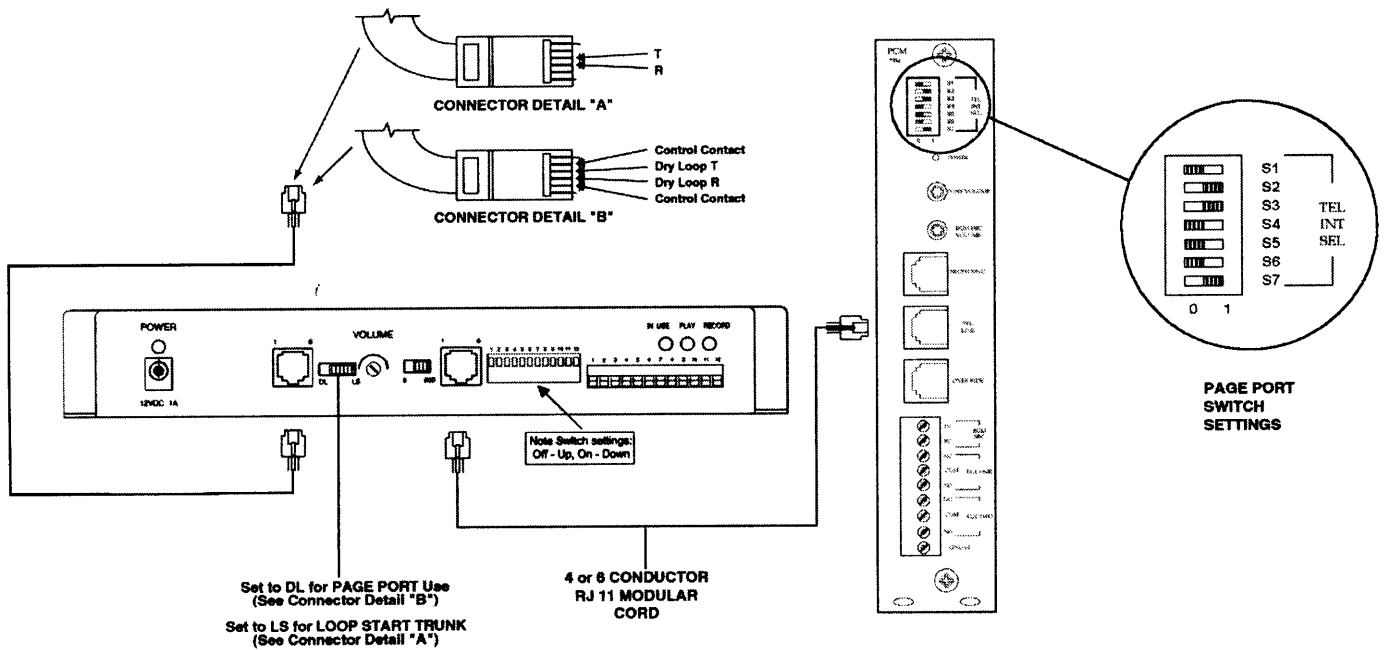

Figure A-5: Typical Application - Connection to a Digital Feedback Eliminator
- \* To Digital Feedback Eliminator (see Figure A-5 on page 56)